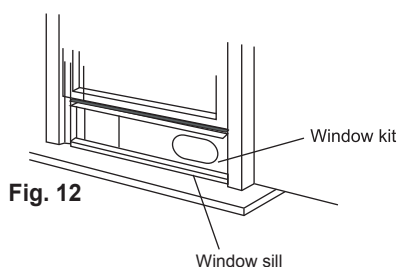

Fig. 12
3. Cut the foam seal (adhesive type) to the proper length and attach it on the top of the window. See Fig. 12.